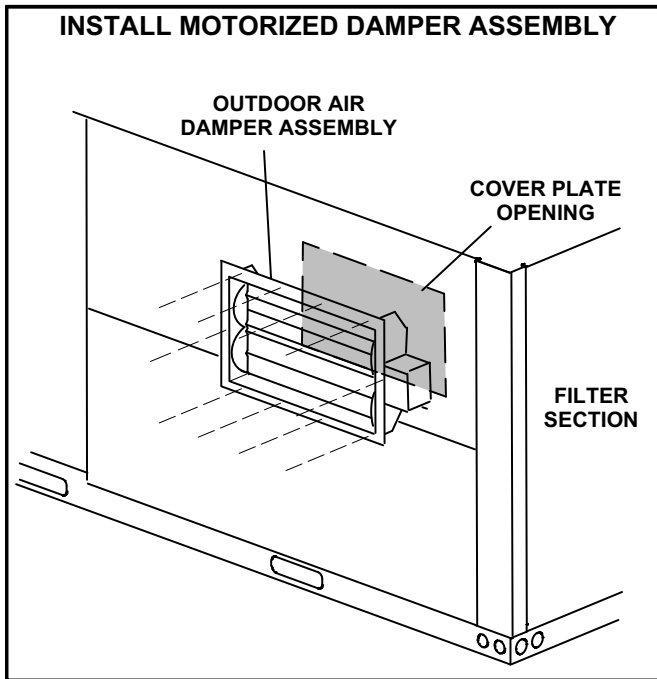

**FIGURE 2**
- 2- If damper is factory-installed, remove six screws securing hood top to access panel. See figure 2. Retain hood top and go to the *Outdoor Air Hood* section.
- 2- If manual damper is factory-installed, remove six screws securing hood top to access panel. See figure 2. Retain hood top. Go to step 5.